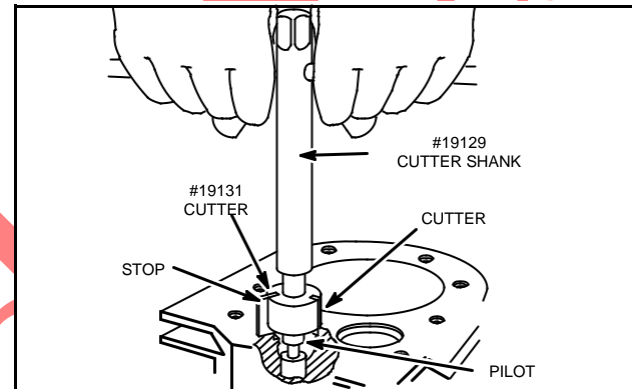

Fig. 28 – Counterboring for Valve Seat
4. Counterbore the cylinder by hand until the stop on cutter touches cylinder, Fig. 28. Do not force the counterbore to one side or it will cut oversize.